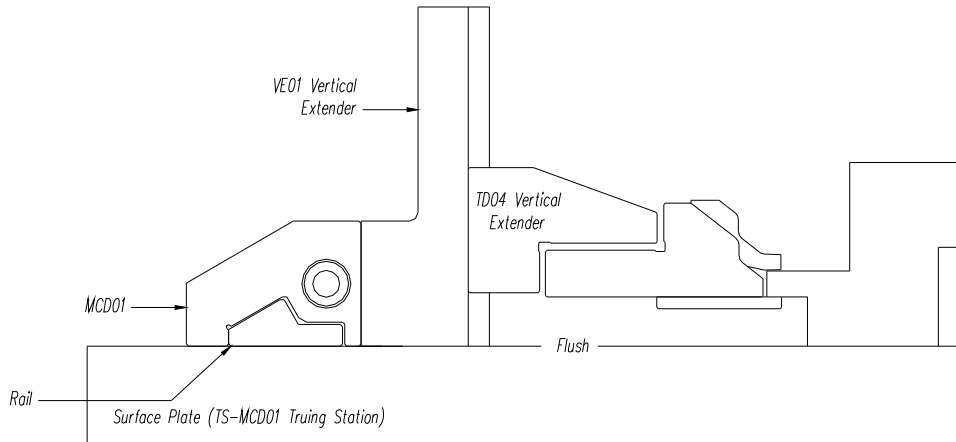

Figure 4
STEP 6. Once the work piece is loaded into the work holder, turn the z-axis height adjustment clockwise until it stops as shown in Fig. 4. ***DO NOT FORCE THE SCREW BEYOND THIS STOP.***